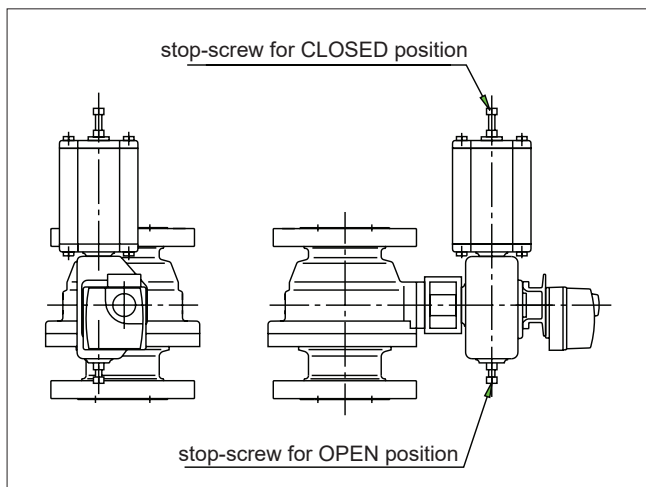

Fig. 17 Open and closed positions of the B1C/B1J actuator
- Adjust the ball open and closed positions by means of the actuator stop screws located at both ends (see Figure 17). An accurate open position can be seen in the body flow bore. Check that the yellow arrow on the actuator indicates the ball flow opening position. **Keep fingers out of the flow bore!**